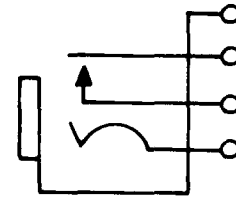

Fig. 1—215-Type Jack
2.01 **215A, C, AM, and CM:** These single-mounted jacks (Fig. 1) are used with 1D, 1E,